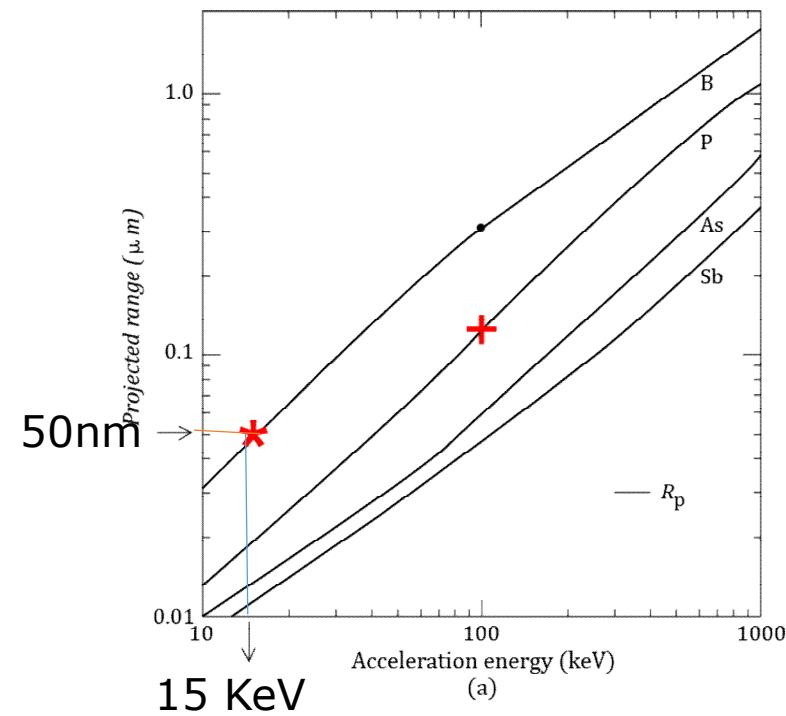
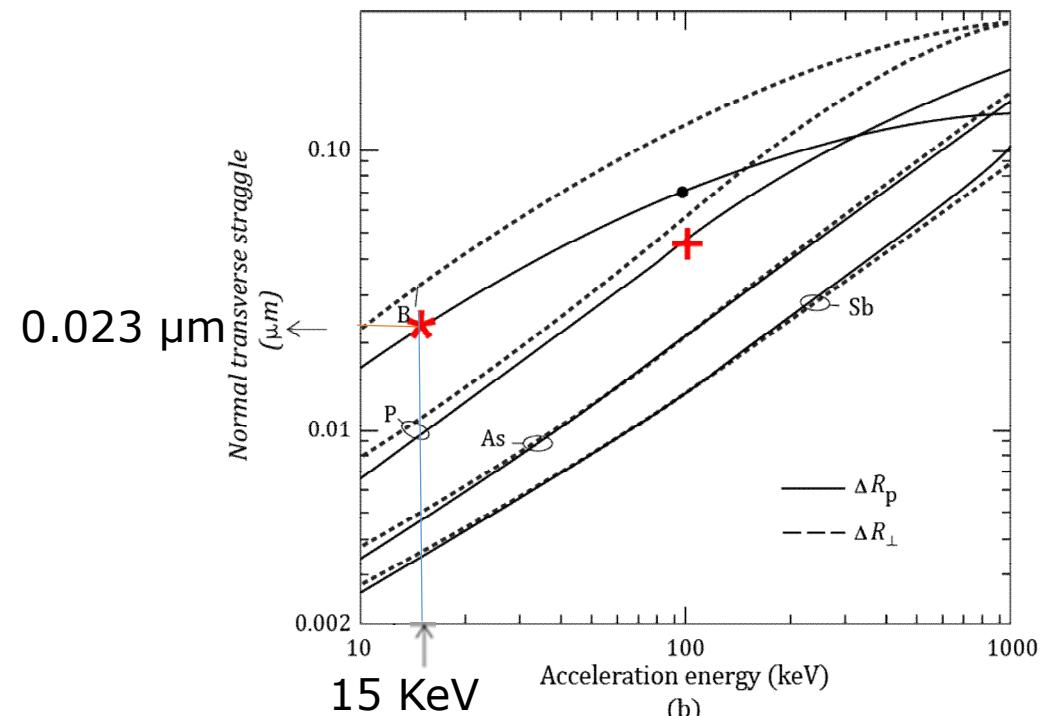

Figure 6.14
Figure 6.15
a) From Figure 6.14 in slide 16, the projected range needs to be **$0.05 \mu m$** (*) and the required energy is **15 keV**. From fig 6.15 in slide 17, the straggle is **$0.023 \mu m$** .